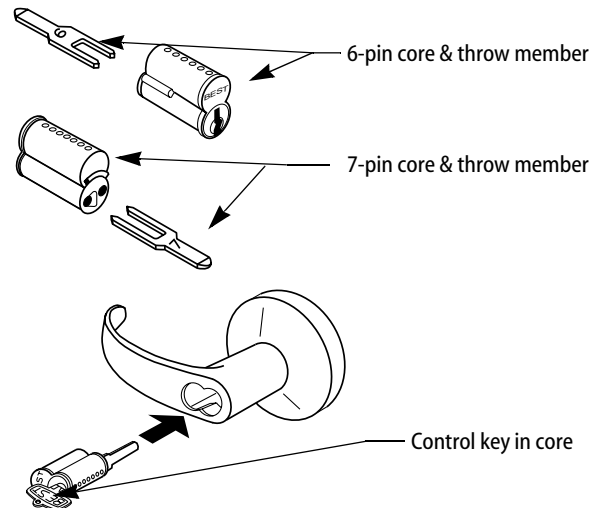

Figure 8
1. Looking into the figure 8 core hole in the inside lever, turn the locking cam ears counterclockwise to match the position shown in Figure 3.33.
1. Looking through the figure 8 core hole in either lever, turn the locking cam drive slot to match the position shown in Figure 3.34.
3. Looking into the figure 8 core hole in the other lever, turn the locking cam drive slot counterclockwise until it stops, as shown in Figure 3.35.
- 1 Insert the proper throw member into the core (see Figure 8—top). Six pin cores require the number "6" throw member; seven pin cores require the number "7" throw member.
- 2 Put the control key into the core and turn the key 15 degrees clockwise.
- 3 Put the core and throw member into the lever with the control key (see Figure 8—bottom).
- 4 Turn the key 15 degrees counterclockwise and remove the key.